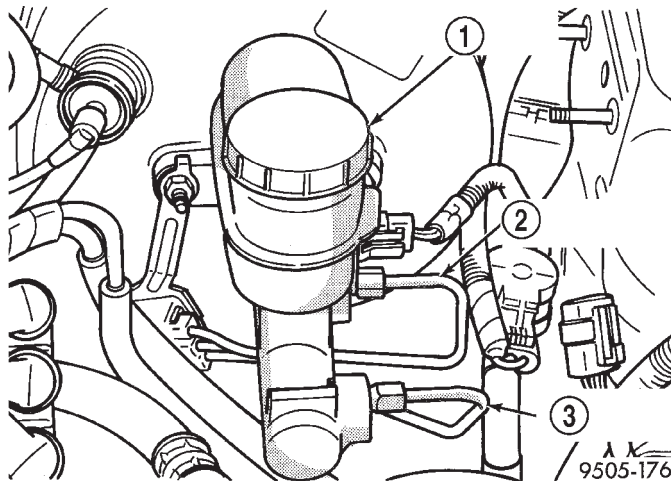
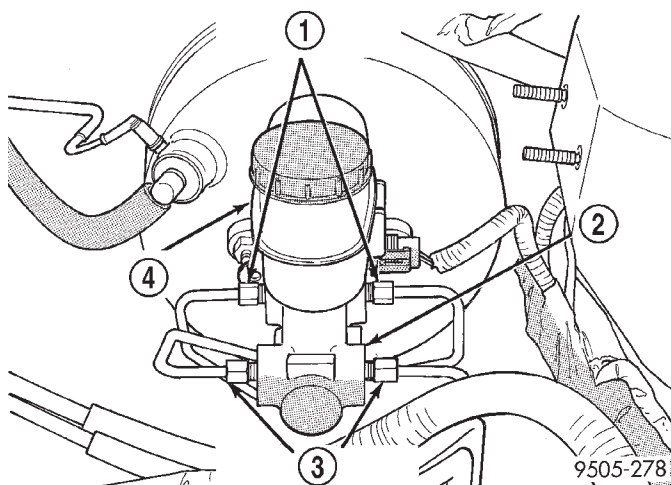

Fig. 69 Primary And Secondary Brake Tubes With Antilock Brakes
Fig. 70 Primary And Secondary Brake Tubes Without Antilock Brakes
(9) Remove the primary and secondary brake tubes (Fig. 69) or (Fig. 70) from the master cylinder.
(11) Install the primary and secondary brake tubes (Fig. 69) in the outlet ports of the master cylinder. Tighten the tube nuts to a torque of 17 N·m (145 in. lbs.).